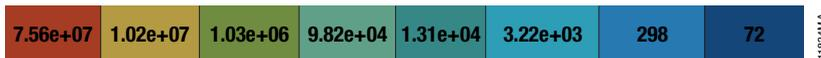

Figure 55. Results plate map with heat map display (Panel A) and example of heat map colors applied to the results in the plate map (Panel B).
- Once the protocol is finished, results are shown in a heat map format to indicate wells with higher or lower signals in comparison to the entire plate (Figure 51, Panel A). The software automatically scales the color selection, assigning the highest values red and the lowest values blue, along a gradient (Figure 55, Panel B). To turn off the heat mapping of the data, touch the small plate map button at the top right side of the information bar above the data plate map. Touch the ellipsis to the left of the small plate map button to enter notes that will appear in the information bar. The results may be viewed in decimal or scientific notation format by selecting the Data Format button next to the **Heat Map** button. Whichever format the data is displayed here will be the format that is used when the results are exported.
- a. To analyze data, tap the **Analysis** button (bottom left corner of screen in Figure 55, Panel A). Analysis functionality is described in Section 3.F, Analysis of Results. For certain result types (e.g., basic protocols containing kinetic reads as well as Time Course protocols), the **Analysis** button will be inactive because analysis is not supported for these protocol types.
- b. To export data, tap the **Export** button (bottom left corner of screen in Figure 55, Panel A). The software will export the data to the manual export folder specified by the Administrator settings (see Section 3.H, Administrator Settings). Results generated from Time Course Protocols are automatically exported to the PC in .csv format, not within the GloMax® Software. The Results screen provides a link to the file pathway where the results are stored. When interfacing with a laboratory information management system (LIMS), we recommend using the .csv file and importing according to your LIMS software guidelines.